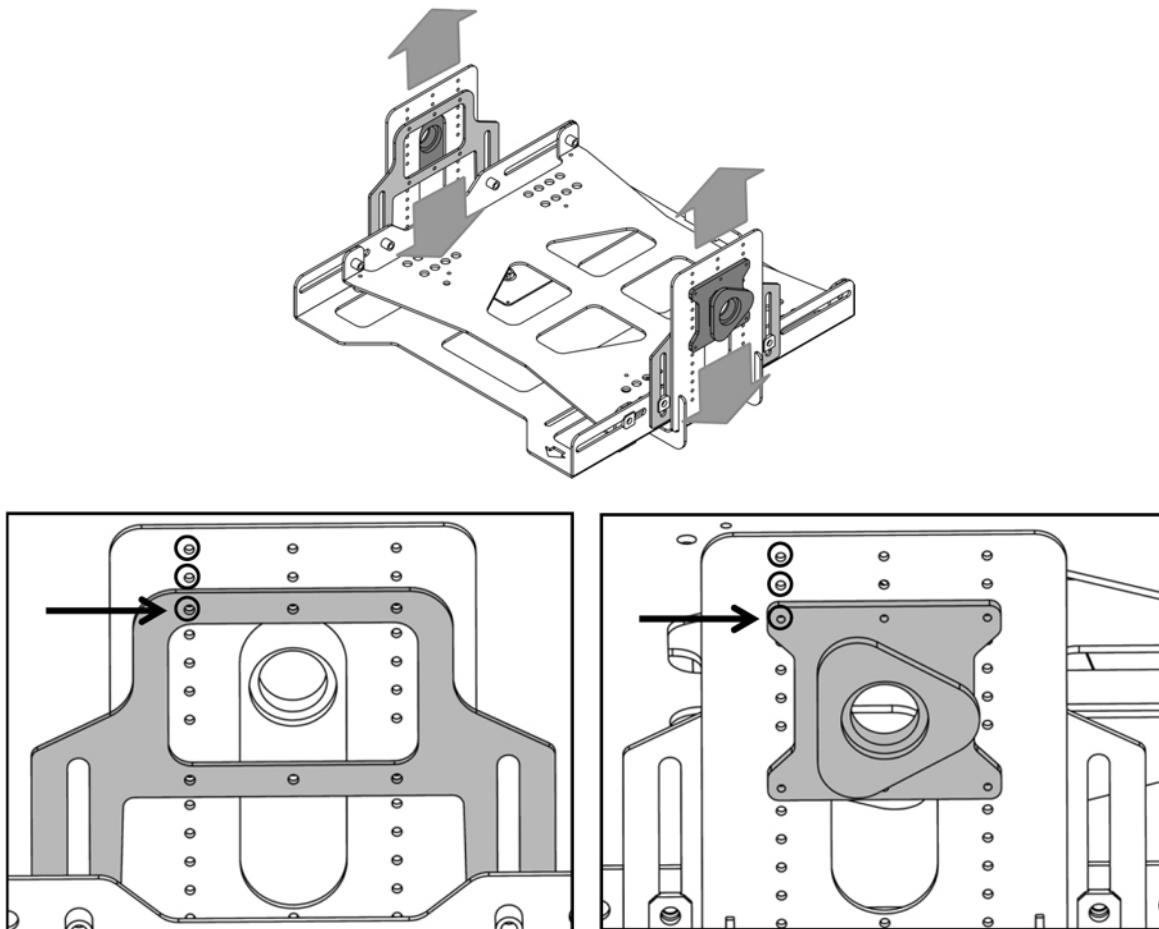

Figure 3-26 Vertical Height Adjustment for Roadster
1. Ensure that the (6) screws are located starting at the third set of holes from the top (bottom illustrations in **Figure 3-26**).